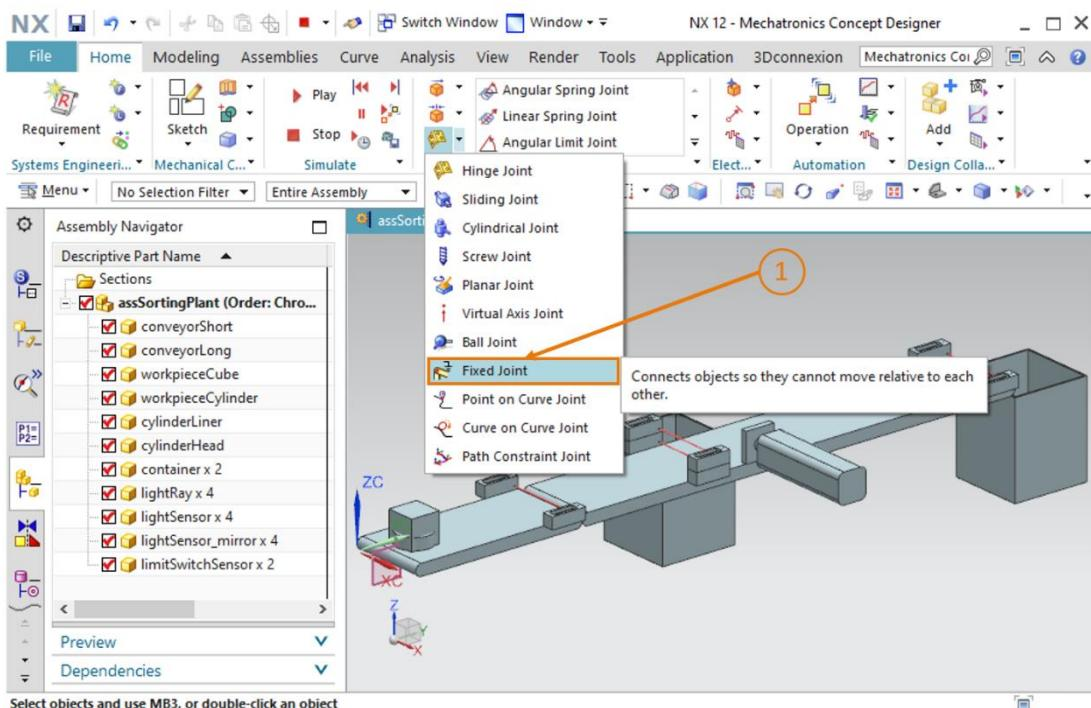

Figure 14: Creating a fixed joint in MCD – Calling up the command
- Navigate to the "**Fixed Joint**" command in the "Mechanical" menu group and click on it (see Figure 14, step 1).